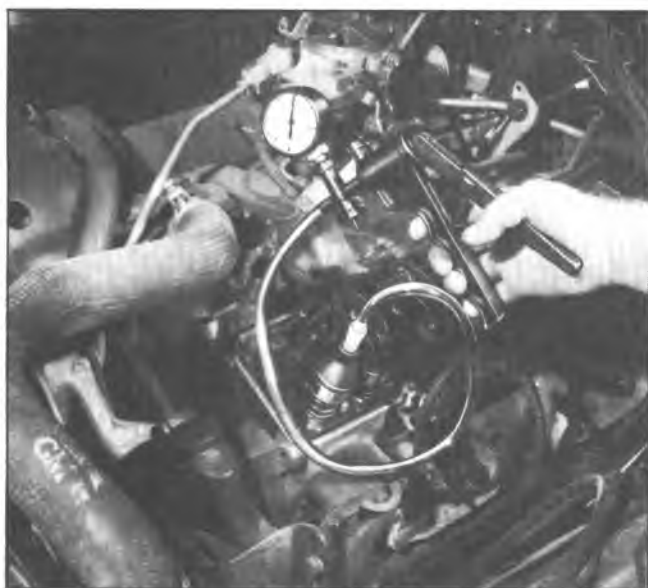

Fig. 27—Checking Valve Stem Oil Seals
4. On In-Line and "Small V8" engines check each valve stem oil seal by placing Valve Seal Leak Detector (Tool J-23994) over the end of the valve stem and against the cap. Operate the vacuum pump and make sure no air leaks past the seal (fig. 27).